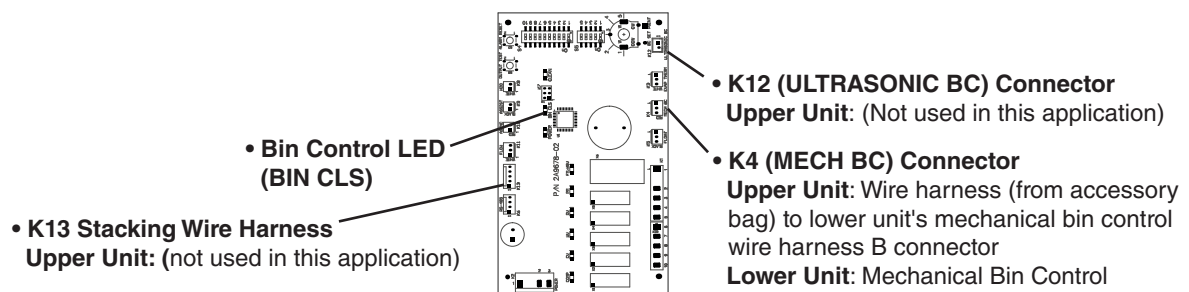

Fig. 4
See Fig. 4.
Disconnect the upper unit's ultrasonic bin control connector from the control board K12 (ULTRASONIC BC) connector. Remove and discard the upper unit's ultrasonic bin control. Note: The upper unit's K13 stacking wire harness connected to the control board's K13 connector is not used in this application. See Fig. 4. **NOTICE! The upper unit's ultrasonic bin control must be removed for proper operation.**
a) Lower Unit Mechanical Bin Control to Upper Unit Ultrasonic Bin Control. Fig. 4.